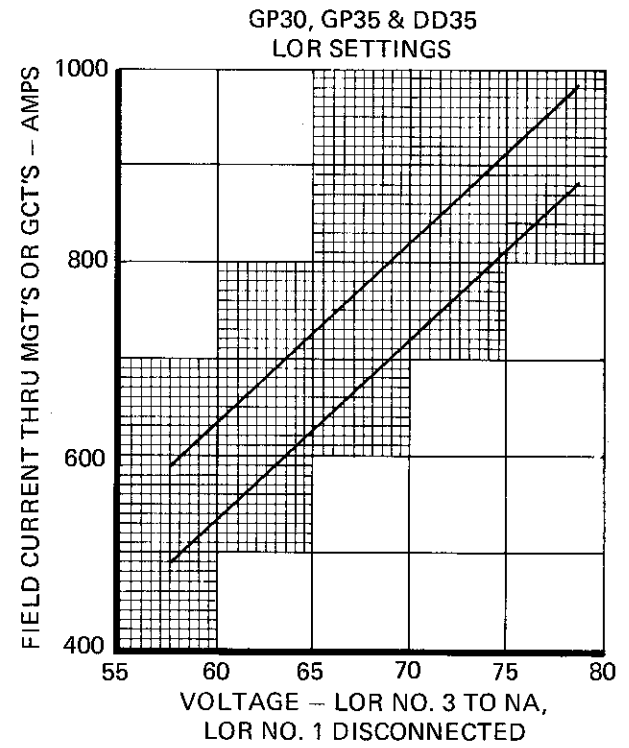

Fig. 3
10. With the throttle in maximum brake position observe voltage and T.M. Field Current and adjust LOR setting at RE25C (GP30) or RE60C (GP35) using Fig. 3.